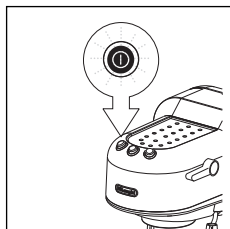
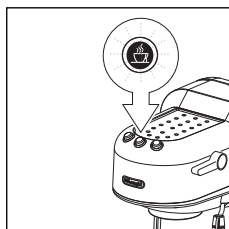
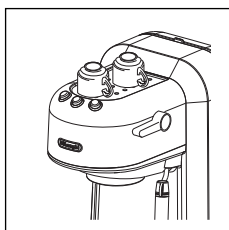

fig. 4
fig. 6
fig. 10
1. Press the ON/OFF button (the button lights up) (fig. 4).
3. Position a cup under the filter holder. Use the same cup that the coffee will be served in, so that it may be preheated. Wait until the "coffee ready" light on the Coffee Button comes on (fig. 6), then immediately press the Coffee Button. Allow the water to run until the "coffee ready" indicator light goes out, then stop the water by pressing the Coffee Button again.
4. Place the cup or cups (cups can be preheated by rinsing under hot water or heating on the cup warmer plate for 15-20 minutes - fig. 10) on the removable drip tray (fig. 11). Ensure that the cup or cups line up with the dispensing holes on the filter holder. Press the on/off button (fig. 4).
5. Wait until the “coffee ready” light on the Coffee Button comes on (fig. 6) then press the Coffee Button. Once the required quantity of coffee has been obtained (we recommend about 30–40ml for an espresso), interrupt delivery by pressing the same button again.
8. To turn the coffee machine off, press the ON/OFF button (fig. 4).
1. Turn the appliance on by pressing the ON/OFF button (the light on the button comes on) (fig. 4). Wait until the “coffee ready” indicator light on the coffee button comes on (fig. 6).
3. Press the coffee button (fig. 6) and at the same time open the steam knob. Hot water is delivered from the cappuccino maker.